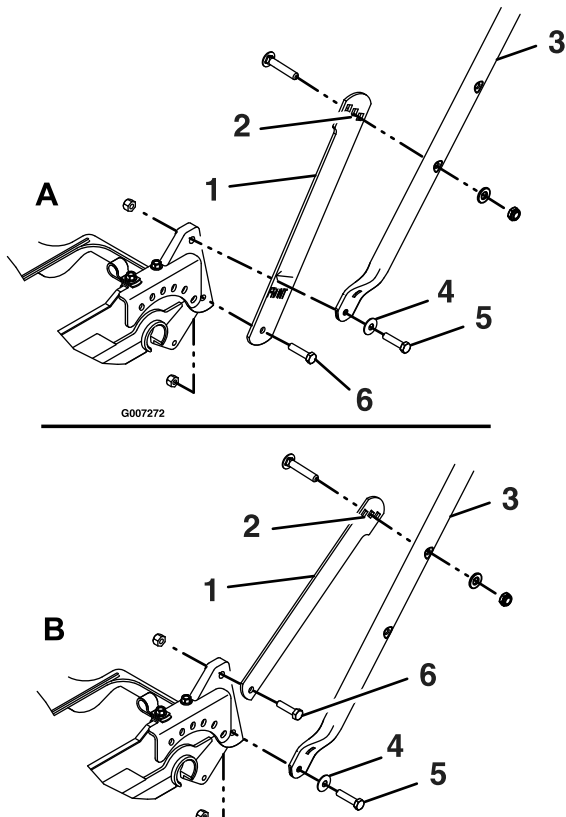

Figure 8
1. Install the hardware in the lower holes in the handle and latches as shown in Figure 8.